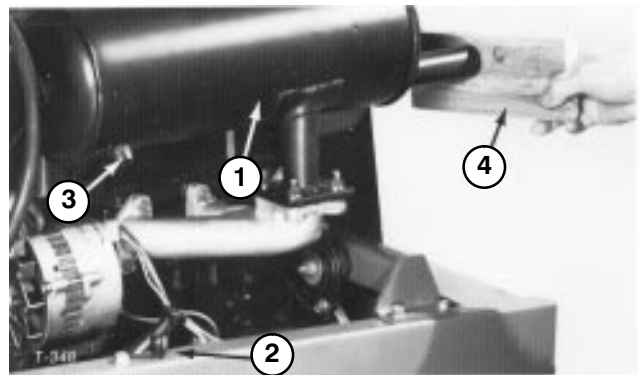

Figure 54
2. Remove pipe plug from clean-out port at lower side of muffler (Fig. 54).
3. Start engine. Plug the normal muffler exit with block of wood or metal plate so exhaust flow will be forced out of the clean-out port (Fig. 54). Continue to block exit until carbon deposits cease coming out port.